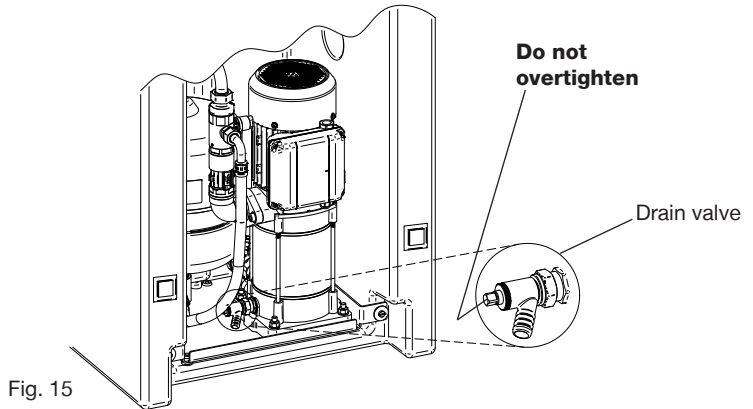

Fig. 15
b) Isolating the water supply to the tank and attaching a flexible hose to the drain valve (see Fig. 15).